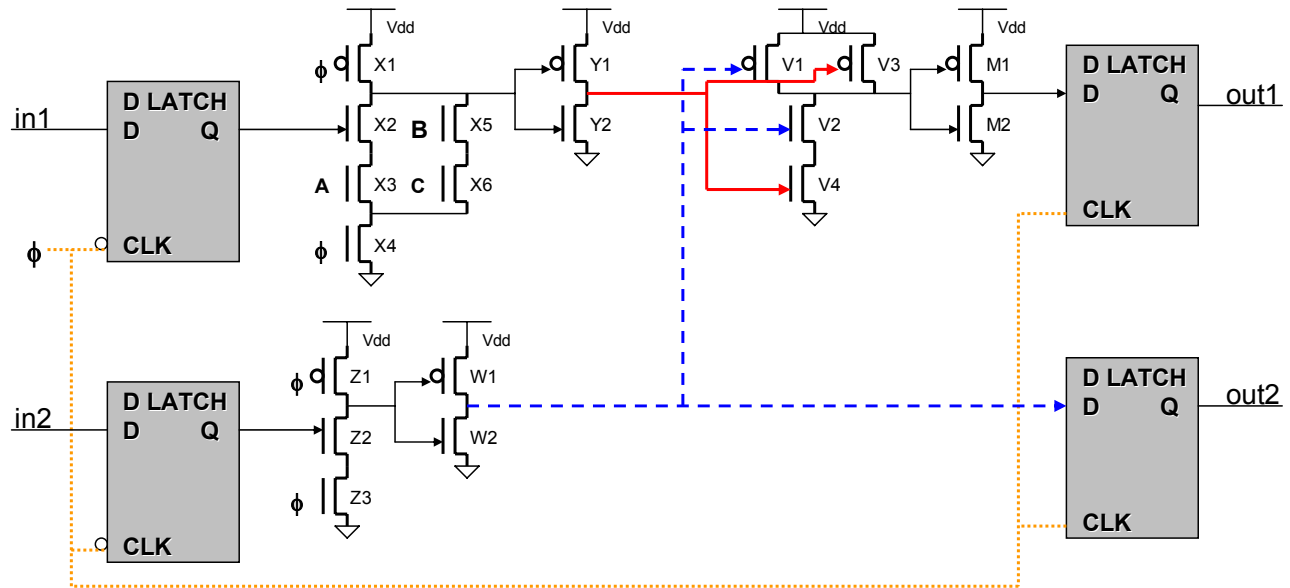

Figure 2.1 Sequential System
2. **Combinational Logic in Sequential Systems:** Consider the circuit in Figure 2.1. The design requirement for this sequential system is a 2 GHz clock frequency. The D Latches used in the sequential circuit have the following performance characteristics: $t_{CLK-Q} = 45ps$, $t_{D-Q} = 35ps$, $t_{setup} = 25ps$, $t_{hold} = 85ps$. Use the sizes given in the chart below for this problem. Consider the input capacitance of each D-Latch as 8 fF and the output risetime/falltime of each D Latch is 60ps. The clock rise/fall time is 90ps. Consider the input slope dependence on *delay* using our linear model with $K=0.15$ (for the latest arriving signal at each gate). Consider both out1 and out2 for all delay and timing calculations in this problem. For worst-case calculations, all inputs not explicitly connected to a latch may be assumed to be connected to the output of a latch where the data is available at the latest time (that ensures proper functionality) before the edge of the clock that will close the latch (make it non-transparent). Use the 0.6 fF/ μm approximation for junction capacitances and calculate C_{gc} only for gate capacitances in this problem, also add 4 fF of wiring capacitance at each gate output node (6 gates total in this problem).